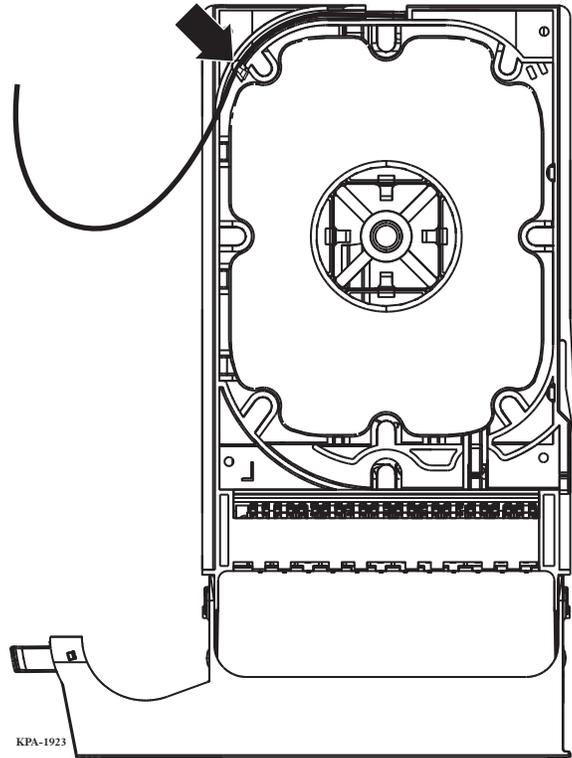

Figure 37
Step 1: Turn module over and place tube under retaining clip (Figure 37).